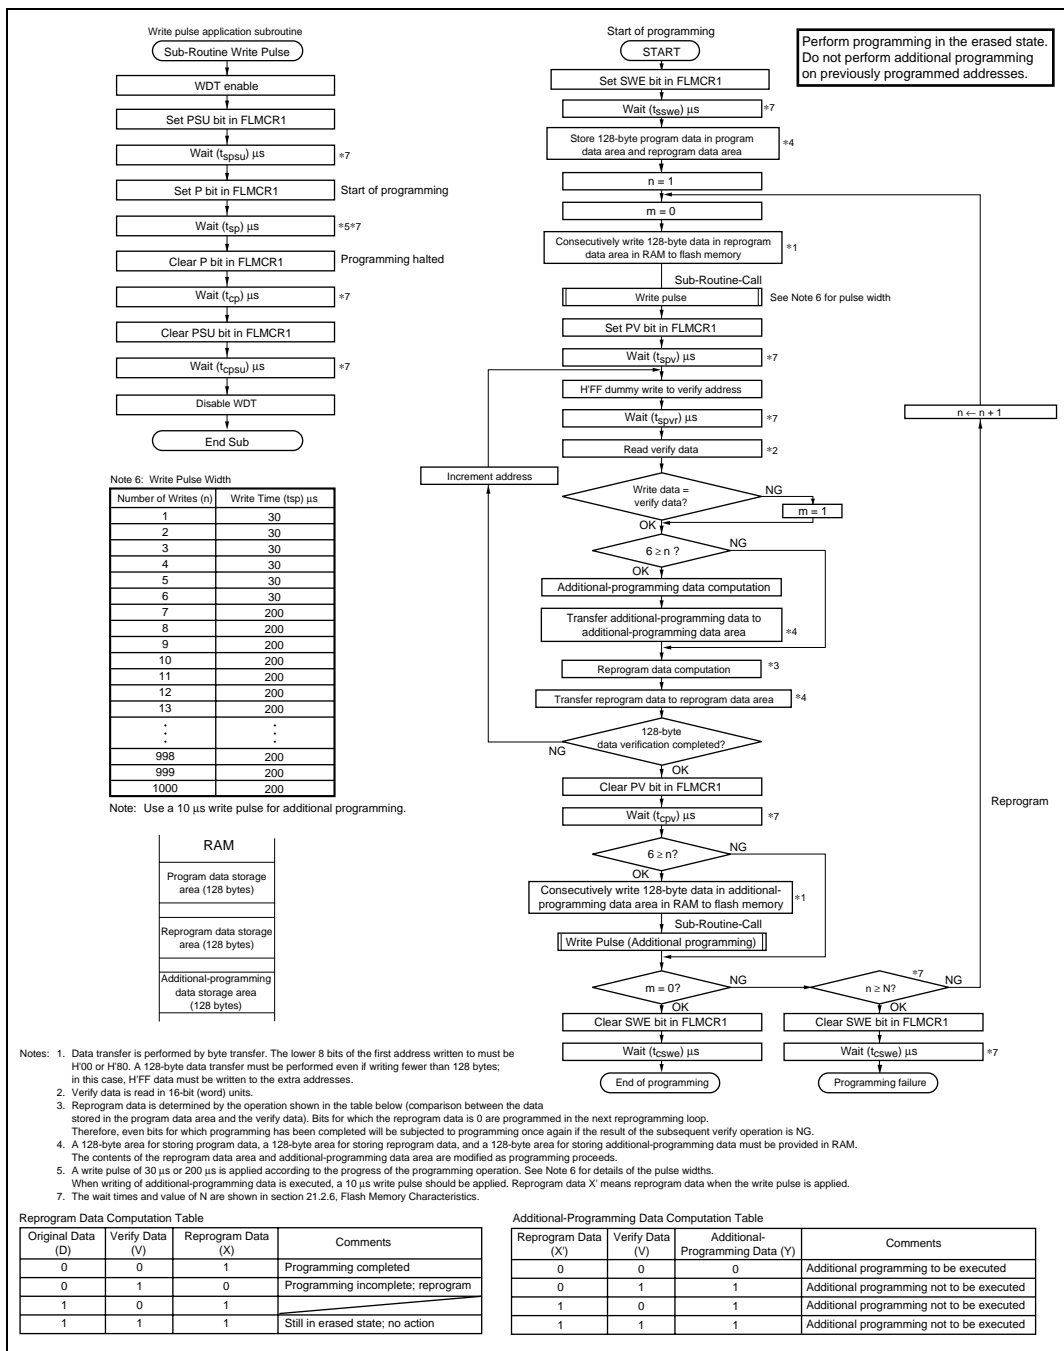

Figure 17.10 Program/Program-Verify Flowchart (128-Byte Programming)
When writing data or programs to flash memory, the program/program-verify flowchart shown in figure 17.10 should be followed. Performing programming operations according to this flowchart will enable data or programs to be written to flash memory without subjecting the device to voltage stress or sacrificing program data reliability. Programming should be carried out 128 bytes at a time.
before performing this read operation. Next, the originally written data is compared with the verify data, and reprogram data is computed (see figure 17.10) and transferred to RAM. After verification of 128 bytes of data has been completed, exit program-verify mode, wait for at least (t_{cpv}) μ s, then clear the SWE bit in FLMCR1. If reprogramming is necessary, set program mode again, and repeat the program/program-verify sequence as before. The maximum number of repetitions of the program/program-verify sequence is indicated by the maximum programming count (N). Leave a wait time of at least (t_{cswe}) μ s after clearing SWE.
6. The program/program-verify flowchart for the H8/3026F-ZTAT version is shown in figure 17.10.